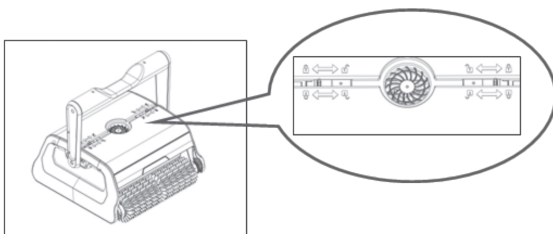

Figure 1
- Slide the clips on the top cover into the position to open the cover (see Figure 1)